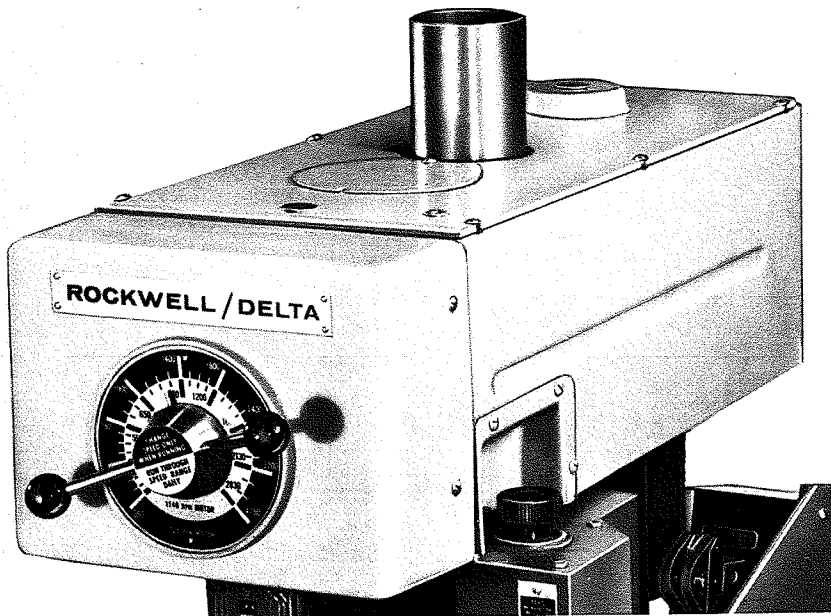

FIG. 3-14
2. All belt drives should be completely guarded (Fig. 3-14). Often a partial guard is worse than none at all because it gives the operator a false sense of security.